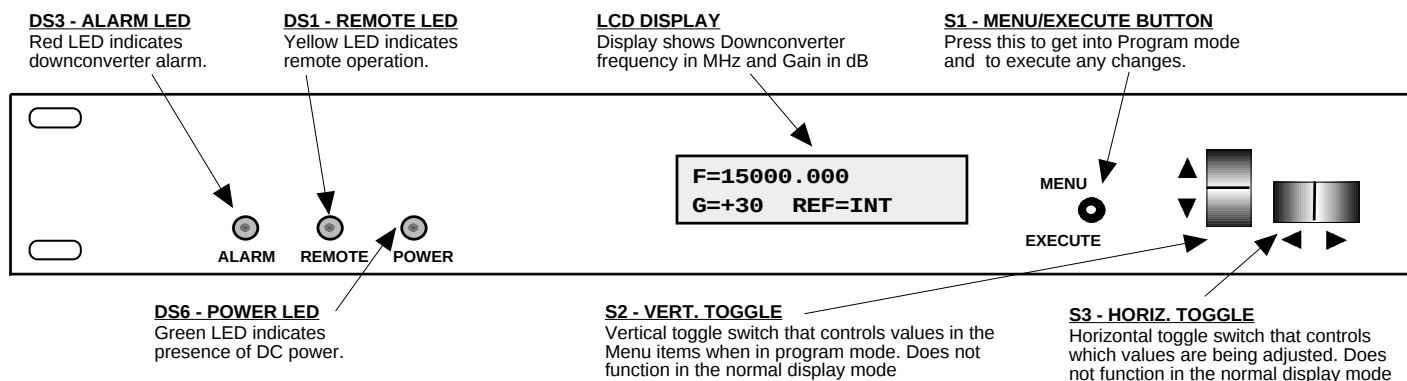

FIGURE 2.3 2016-152 Front Panel Controls and Indicators
Figure 2.3 shows the front panel controls and indicators.
6. Be sure DS6 (green, DC Power) is on and DS3 (red, Alarm) is off (Figure 2.3).
Alarm indications appear on the LEDs (see figure 2.3).